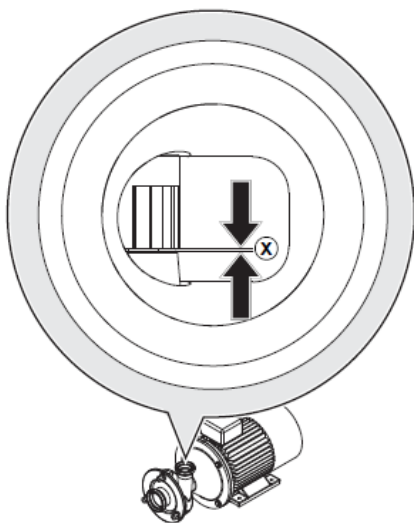

Fig. 24 Measurement of impeller–pump cover clearance
- Measure the clearance inside the pipe connection (discharge line). See Fig. 24 "Measurement of impeller–pump cover clearance".